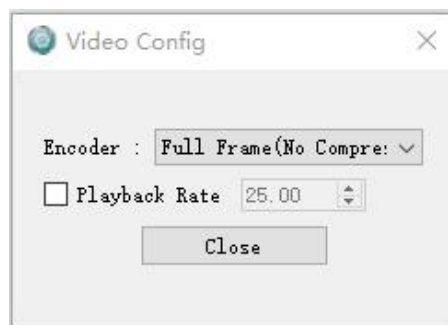

Figure 5-5
- 9) Setup: As shown in Figure 5-5, configure video compression format and playback rate. Compression options include Full Frame (No Compression) and MPEG-4.